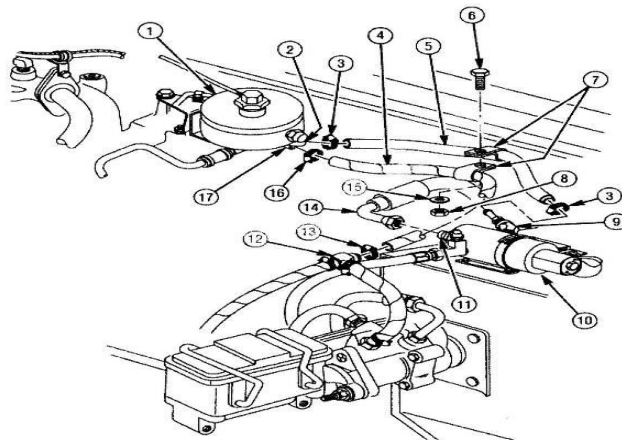

Figure 22
u. Removal of Power Steering Hoses. Refer to TM 9-2320-387-24-2, Chapter 8, Task Para 8-25, Page 8-68 and **Figure 22** contained in these instructions.